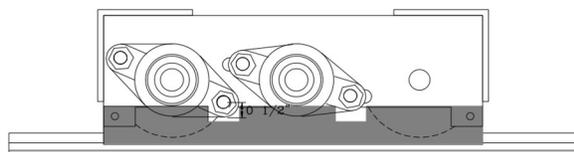

Figure 15: N-BRK Installed, side view
**N-BRK's** are 1 1/2” X 3/4” aluminum angle brackets used for narrow carriages between 12” and 18” wide. These brackets ship installed from the factory. The aluminum angle is drilled and attached to the two tabs on the ends of the cross members. Remove the bracket from the carriage. Place the carriage on the tracks. Slide the aluminum bracket in the anti-tip channel at an angle. Line the bracket up with the corresponding tabs on the cross member and line up at 90 degrees. Use the bolts, washers and nuts provided to attach. N-BRK should slide throughout the length of the tracks without drag. (Fig. 15)